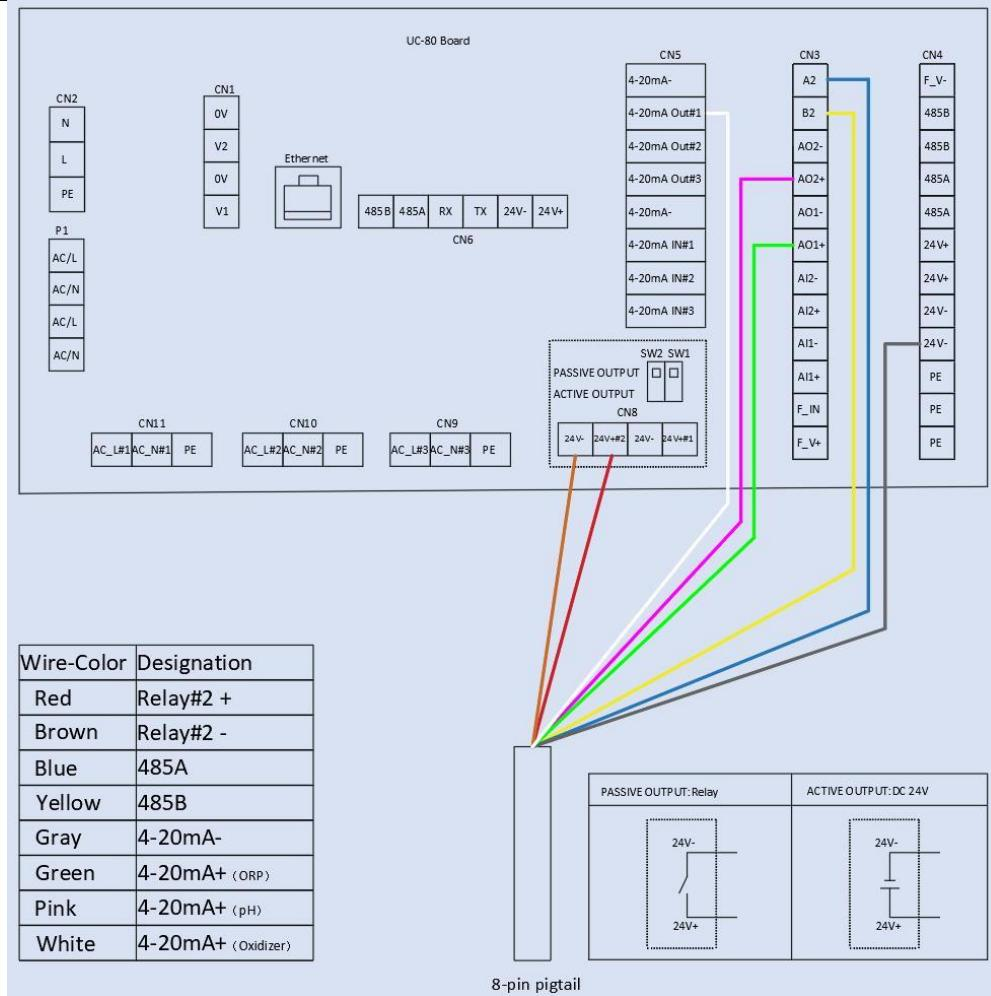

Figure. 6 - Pre-Landed Output Flying Lead Cable Wiring Diagram
The output pigtail offers a female adapter. This pigtail cable is designed to be connected to the loose flying lead cable with male adapter and open wires that is provided with the panel. This 8-pin output enables 3x 4-20mA signal passthrough, 1x RS-485 and 1x Relay ( Default is Active Output 24Watt, can be changed to Passive Output) output to pass onto another device. The loose flying lead cable can be rapidly connected directly to the equipment in the field. Wire labeling and color code can be found in the table in the lower left corner of Figure 6 seen below, or rewired to the equipment according to the wiring diagram shown in Figure 6 based on the serial # range provided below of **heritage units** that **DO NOT** contain the analog PID control relay.
When Flow Control Mode (C) is selected, a user defined flow rate setpoint must be entered (Figures 6 & 7). The FS-100 will automatically control the regulating valve according to the preset flow rate with an internally calculated PID algorithm.